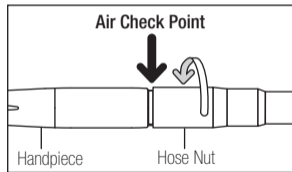
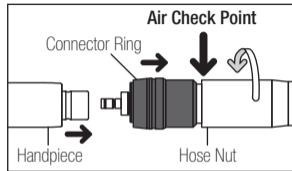

Fig. 1
Fig. 2
- 2) Tighten the Hose Nut. (Fig.1)
Slide back the Connector Ring as shown in Fig.2.
Set the Air pressure at the "Air Check point" on Fig. 1 and Fig. 2 The setting values are on the specification table. Do not exceed the recommended air pressure by using Multi Gauge.